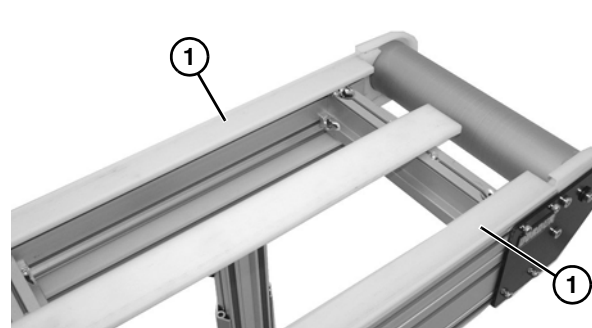

Figure 33
1. Remove upper wear strips (**Figure 33, item 1**) from top of frame assembly.